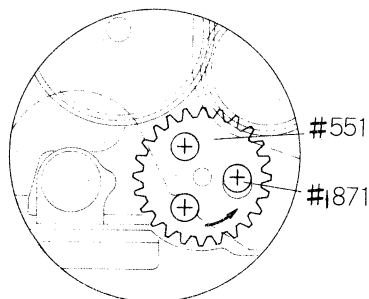

fig. 12-2
- 1) Hold the camera body upside down and keep the film-advance lever at the fully-stroked position by your thumb. Then, loosen three Screws #871 to latch #271 with #300. (fig. 12-2)
- 2) Turn the sprocket toward the spool until it is stopped by the interference of #397 with #340. At this time, re-tighten #871, with #551 placing in the direction of arrow. (See fig. 12-2.)